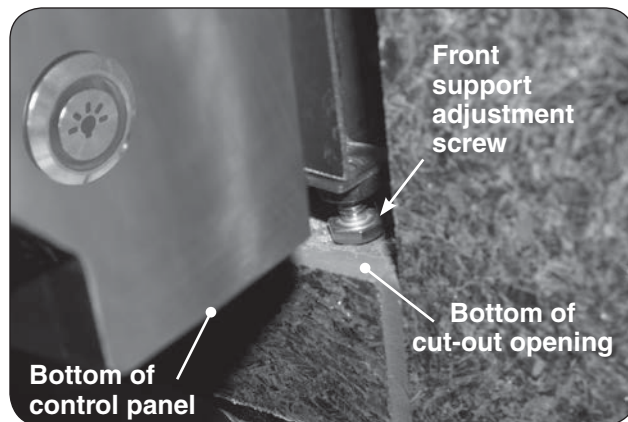

Fig. 21-1 Front support adjustment screws
6. Rotate the front support adjustment screws to the left to raise and to the right to lower the respective side of the appliance grill. Use a 7/16" open-end wrench as needed. See Fig. 21-1.